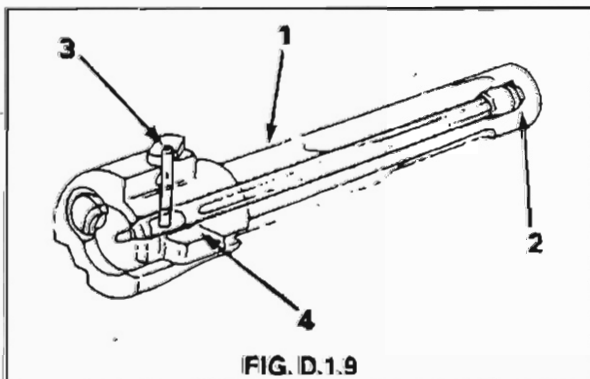

FIG. D.1.9
- 10. When assembling the firing pin to the bolt, ensure that the machined cut out in the firing pin is aligned with the retaining pin locating hole in the bolt. If they are not aligned the retaining pin will not enter fully. The outside diameter of the rubber bush fitted to the rear of the firing pin is slightly larger than the diameter of the recess in the rear of the bolt. When fitting the firing pin, compress the rubber bush slightly with the thumb and index finger before pushing it home. The rear of the firing pin will protrude slightly from the rear of the bolt after it is pushed in completely. See Fig. D.1.9